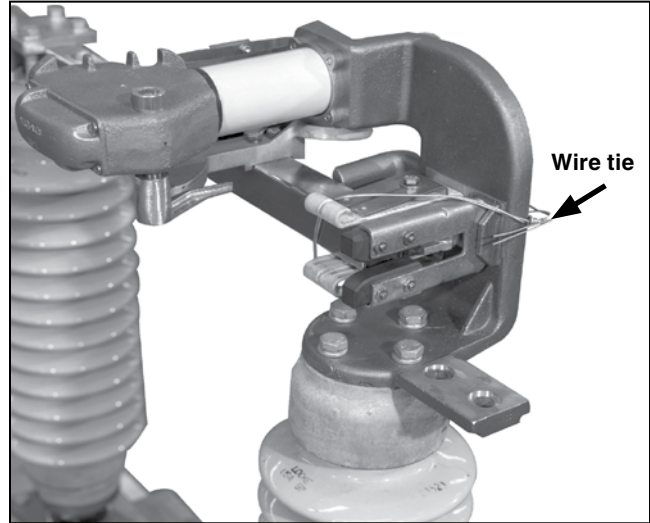

Figure 9. Tie the switch blade to the main contacts.
STEP 6. To minimize time-consuming final adjustments, make sure the switch is fully closed. Tie the switch blades to their stationary main contact assemblies using a wire tie. See Figure 9.